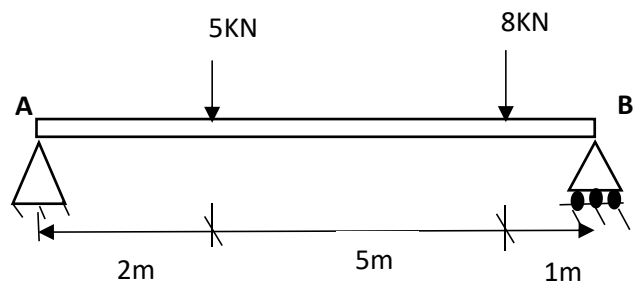

Figure 3
b). Part of a simply supporting structure of a robotic arm is subjected to two point loads shown in figure 3. Determine the maximum shear force and bending moment. And plot them. **[8 Marks]**